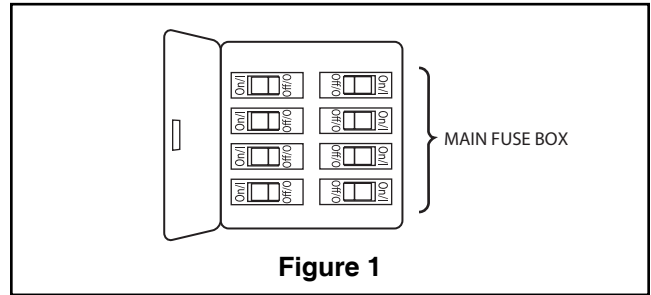

Figure 1
- ☐ 1. Restore electrical power to the outlet box by turning the electricity on at the main fuse box (Figure 1).